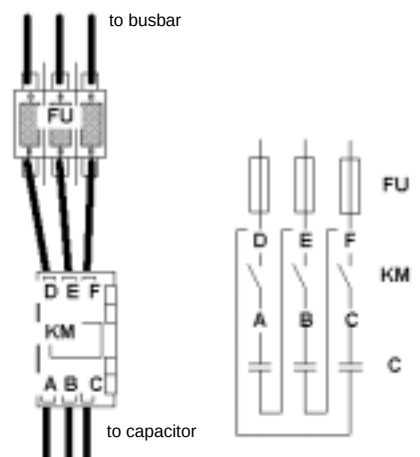

Fig. 25 Breaking in the branches
- Breaking in the delta branches (fig. 25)